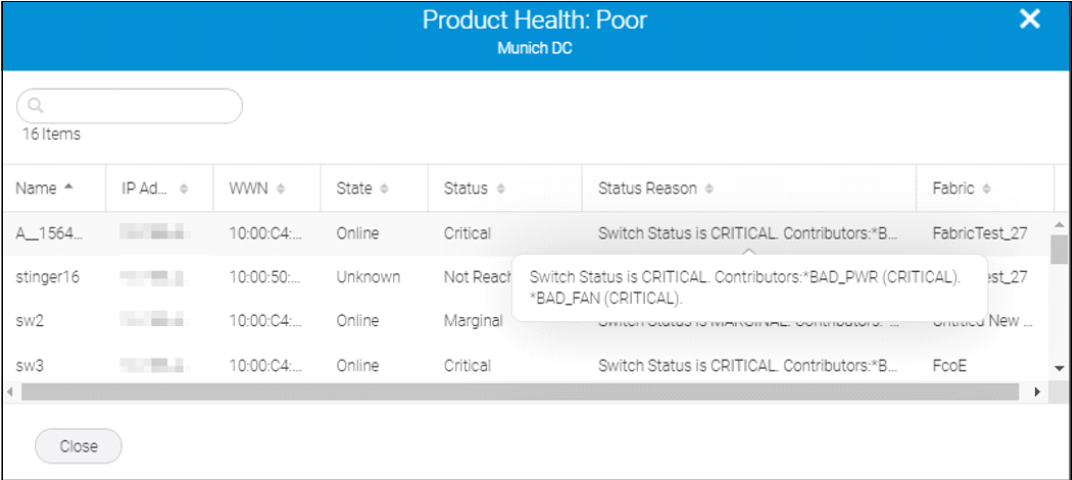

Figure 11-52 Product Health: Poor
3. To see the details of all switches in a specific category, click the bar chart of the widget, and then, select **Show Details** (see Figure 11-52).